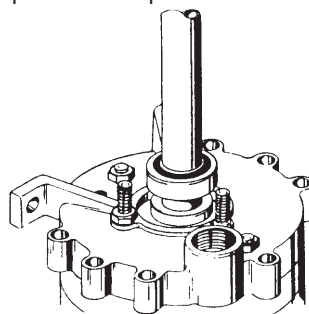

Figure 4-15
25. Solidly supporting the bottom end of the shaft, drive or press a ball bearing (#24B) onto the shaft until it rests firmly against the shoulder on the shaft.(refer to figure 4-15) A sleeve properly sized to contact only the inner bearing race will be helpful for this operation.